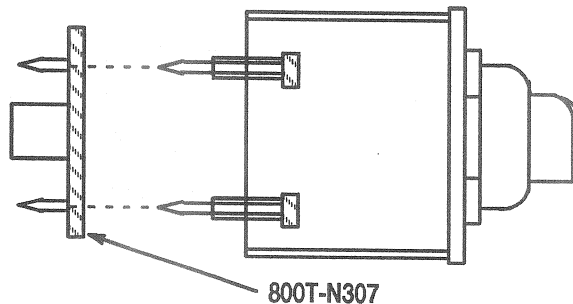

FIGURE 3
3. The 800T-N307 is shown in Figure 3.